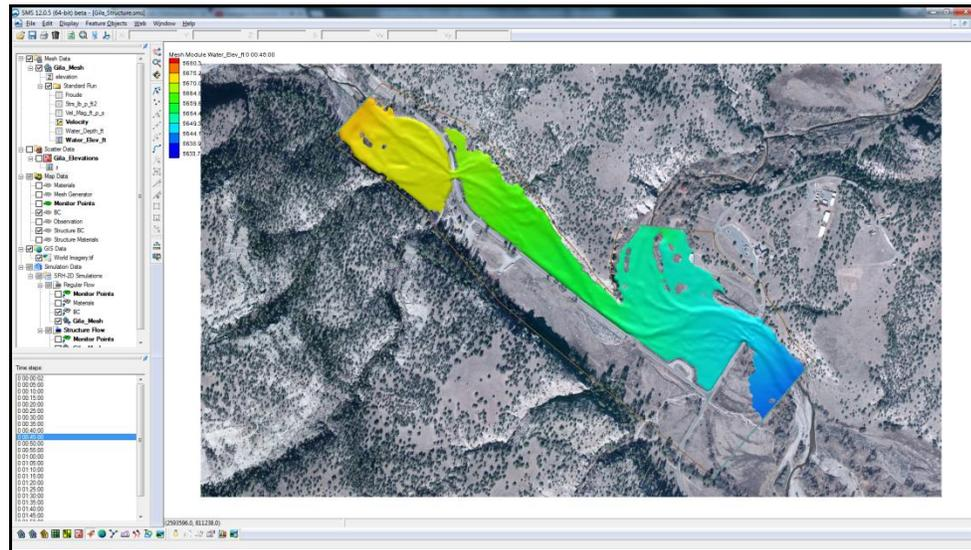

Figure 1 Gila\_Structure.SMS project
4. Click **Open** to import the project and close the *Open* dialog. The Graphics Window should appear similar to that shown in Figure 1.